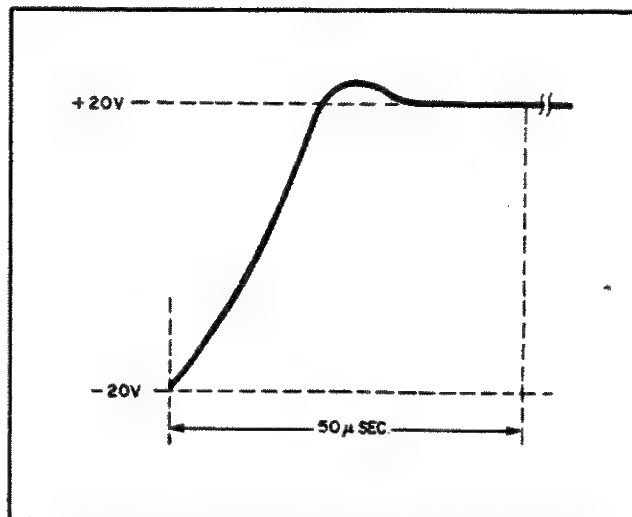

Figure 5-7. Typical Programming Speed Waveforms
- Adjust oscilloscope to observe rise time of one squarewave. The waveshape should be within the tolerances shown on Figure 5-7 (output should change from maximum rated negative value to maximum rated positive value in less than 50μsec).